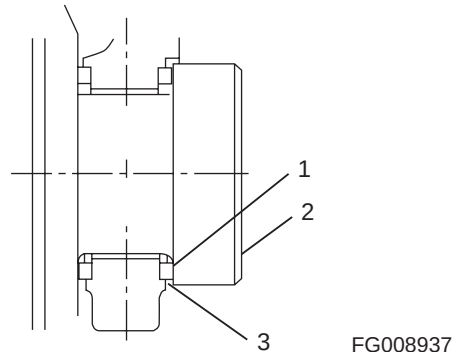

Figure 183
- Method B: Use a feeler gauge to measure the clearance (3, Figure 183) between the thrust bearing (1, Figure 183) and crankshaft (2, Figure 183). Record the measurement. See "Thrust Bearing" on page -98. for the service limit.